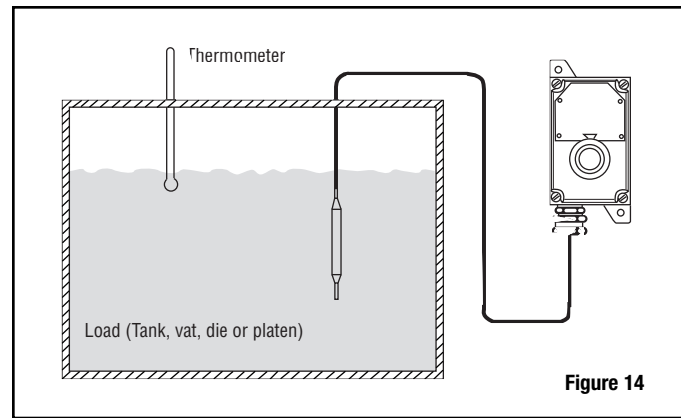

Figure 14
2. With the aid of an accurate thermometer or other temperature measuring device, recalibration may be performed within the process as in Figure 14.